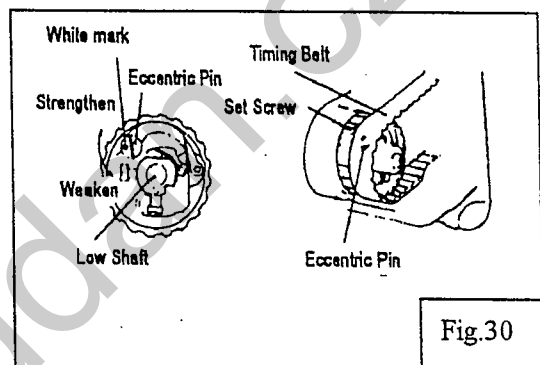

Fig.30
**C Force applied to the safety clutch (Fig.30)**